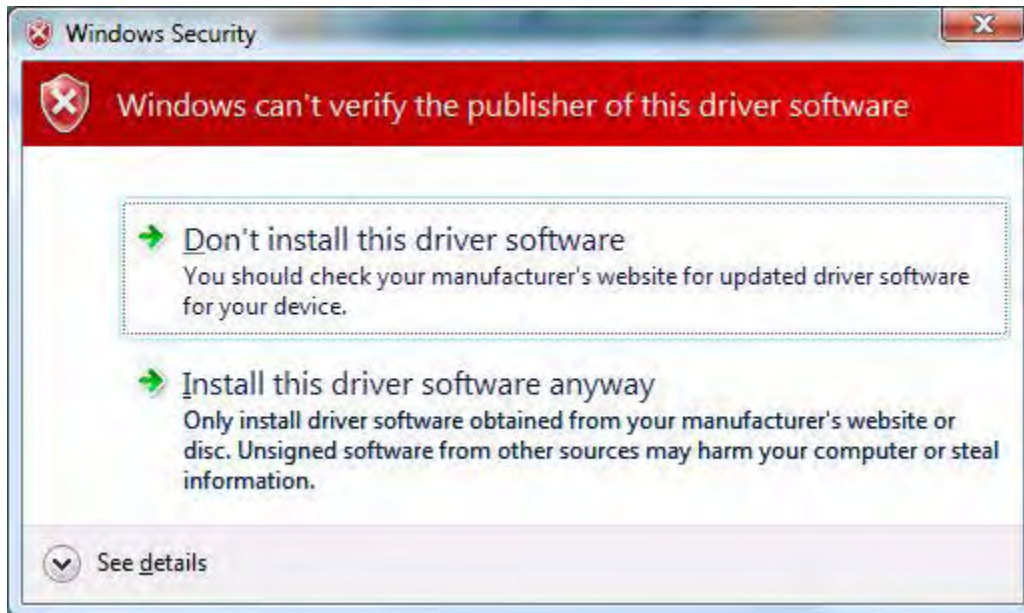

Figure 9. Can't Verify Publisher Dialog, Windows Vista
- When Windows prompts you whether to install or not install, as shown in Figure 9, click **Install this driver software anyway** and wait until the installation is completed (Windows may prompt you more than once).